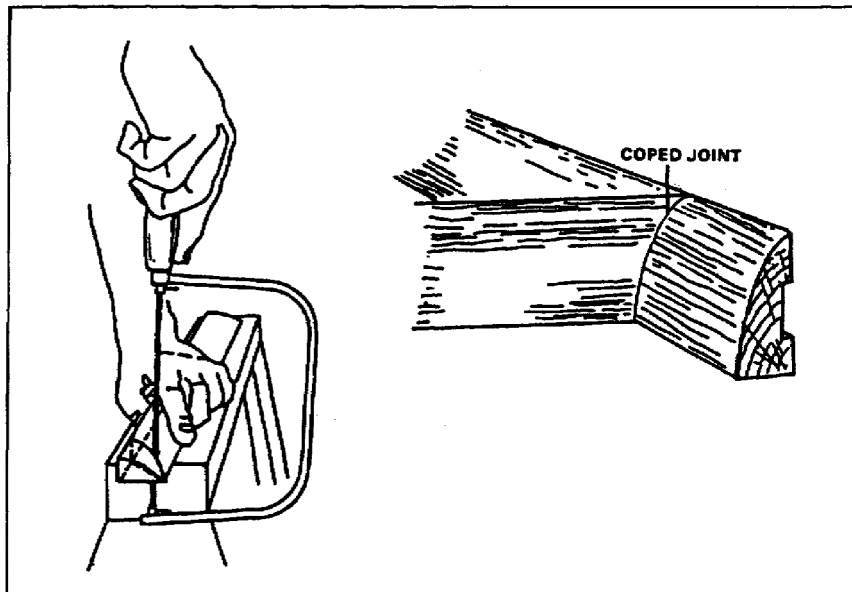

Figure 2-9. Coping saw and coped joint
(4) Coping Saw. The blade of a coping saw can be turned to change the direction of the cut or to cut sharp angles. This saw is also used for cutting curved surfaces and circles. Coped joints are sometimes used when joining moldings at right angles. One piece of stock is cut away to receive the molded surface of the other piece (Figure 2-9).